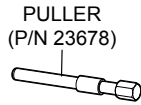

Figure 24. Puller
- If axial movement is in one direction only, remove clutch using the clutch puller tool, P/N 23678. See Figure 24.